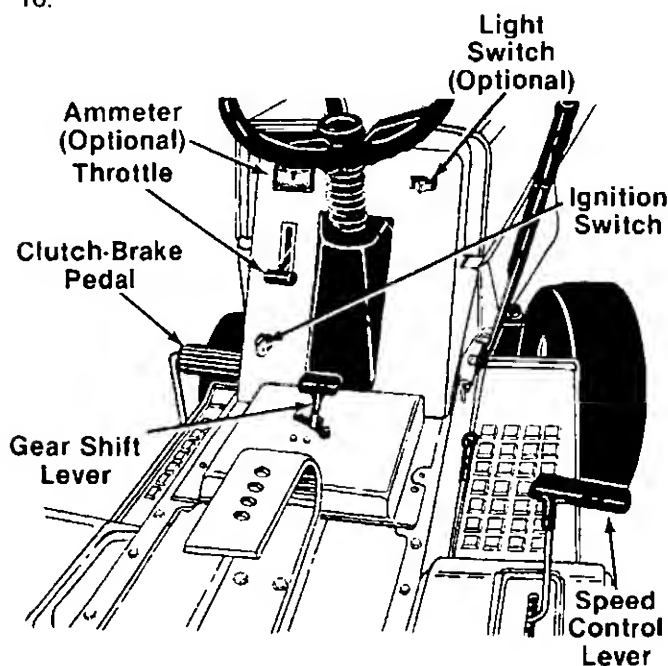

FIGURE 16.—Model 13618 Shown
The throttle control is used to regulate the engine speed and to activate the choke on the engine. To get maximum efficiency from cutting, the throttle should be in the FAST position when operating the mower. Pushing the throttle all the way forward past FAST, will choke the engine. See figure 16.
The shift lever is located on the left side of the console and has three positions, "FORWARD," "NEUTRAL" and "REVERSE." See figure 16. The clutch-brake pedal must be depressed and the lawn tractor must not be moving when shifting gears. Do not force the shift lever. Release the clutch-brake pedal slightly to line up the shifting collar in the transmission. Then try to shift gears.
Turn the key to the "START" position to start the engine. When the engine is running, let the key return to the "ON" position. To stop the engine, turn the key to the left to the "OFF" position and remove it to prevent accidental starting. See figure 16.
Push the light switch to turn on the lights. The lights will only operate when the engine is running. See figure 16.
The ammeter registers the rate of battery charge or discharge. The ammeter will register on the discharging side when starting the engine. It should register on the opposite side (charging) when the engine is running in the fast position until the battery is completely charged. With a fully charged battery or with the engine idling, the ammeter will not show a charge. See figure 16.
The clutch-brake pedal is located on the left side of the lawn tractor. Depressing the clutch-brake pedal part way disengages the clutch. Pressing the pedal all the way down disengages the clutch and engages the disc brake. See figure 16.
4. Set the throttle control in the CHOKE position. See figure 16.
5. Turn the ignition key to the "START" position. When the engine is running, let the key return to the "ON" position. See figure 16.